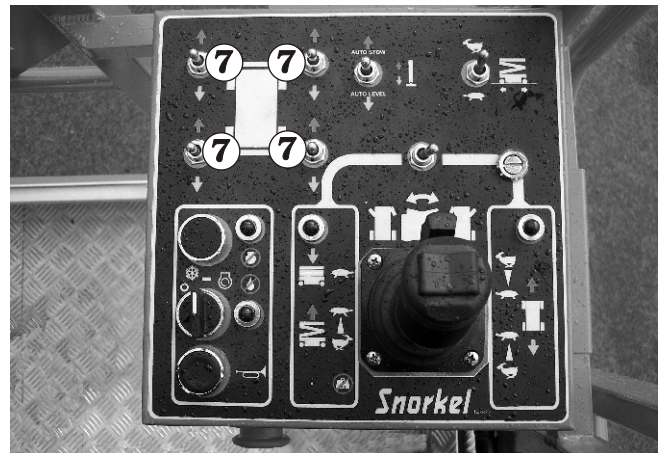

Figure 8.24
2. Push and hold the **Stabiliser** switches **7** forward until all the stabilisers are completely up (see Figure 8.24).